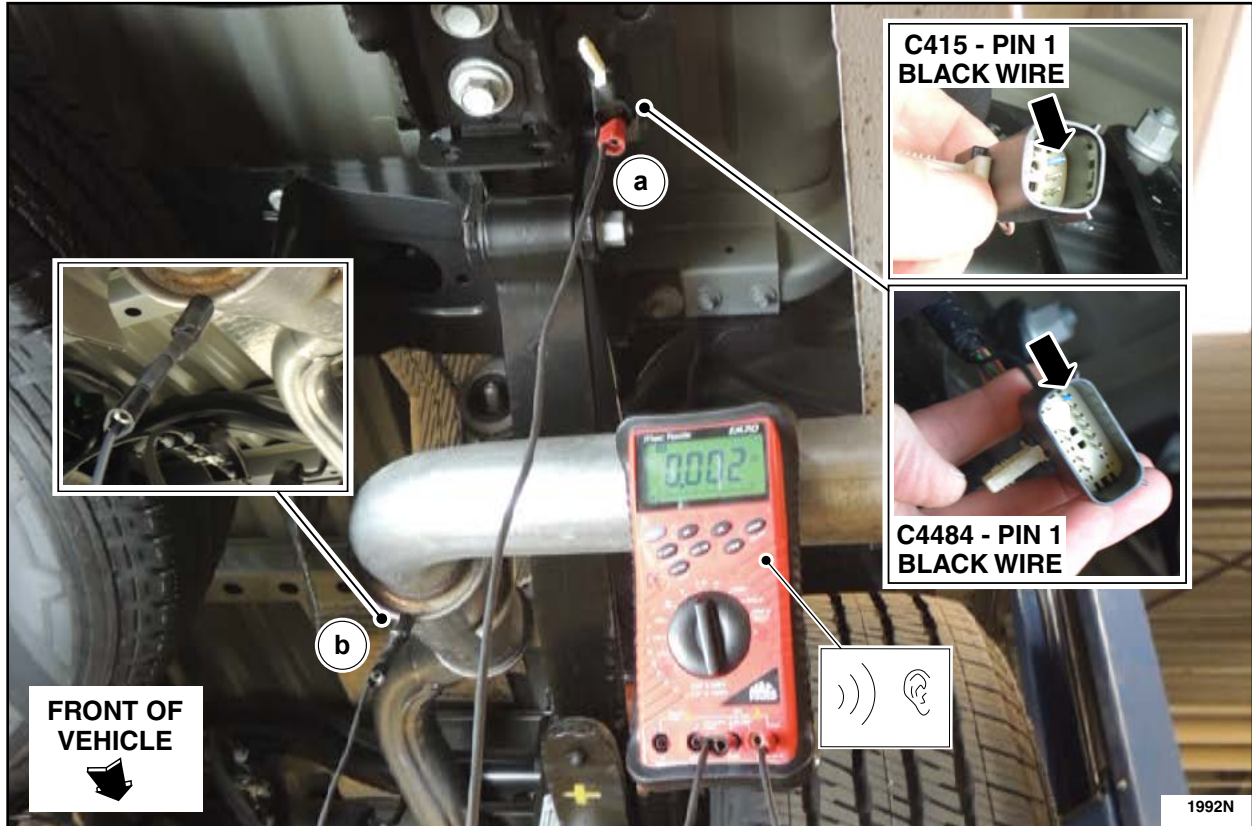

FIGURE 10
10. Connect the leads of a volt/ohm meter to pin 1 (Bk wire) of C415 or C4484 (a) and a good ground (exhaust or chassis ground) (b) as shown in Figure 10. Set the meter to ohms with an audible tone. The audible tone should be heard at this time, if not check for good meter lead connections at both locations. If the connections were found to be secure continue to the next Step.